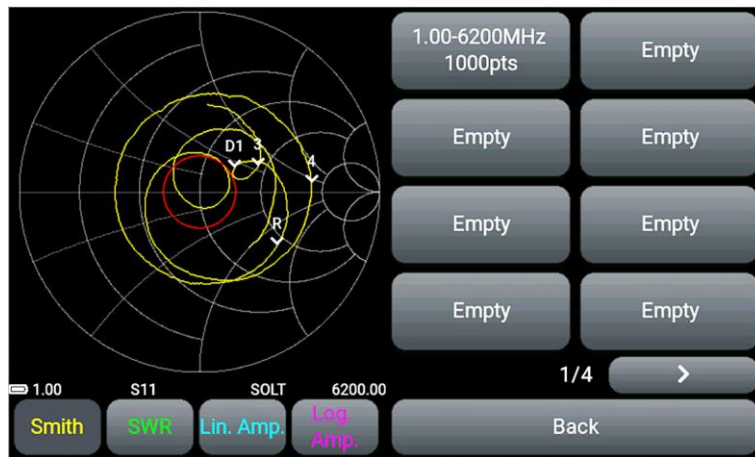

Figure 9.23 - User settings menu
9.12.1. Enter the **Presets** section of the main menu (Figure 9.23).